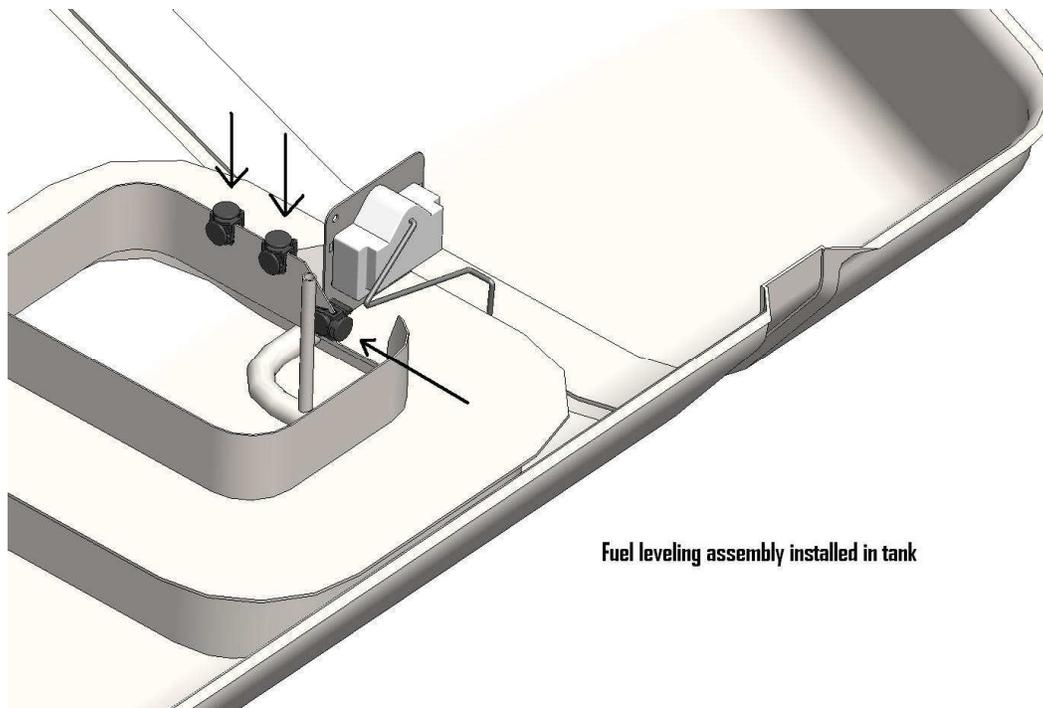

FIGURE 1-3
- 8 Position the fuel level sensor assembly into the tank as shown in **FIGURE 1-3** (resting the fuel pump on the top of tank while the leveling unit assembly is installed). With the fuel level sensor bracket and the baffle walls butted up against each other. Push the provided edge clips into position to secure the two pieces together.